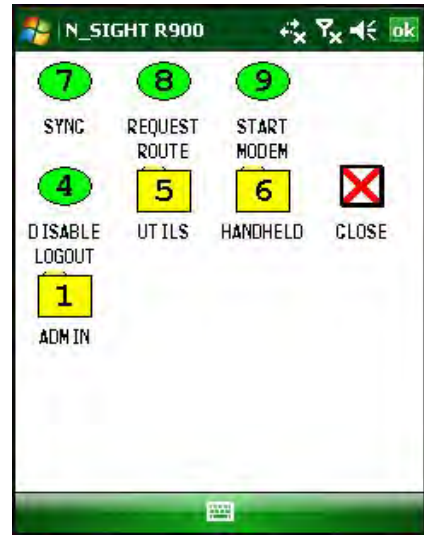

Figure 10.2 N_SIGHT R900 Main Menu
The N_SIGHT R900 Main Menu appears, as illustrated in Figure 10.2.
- 2 The N_SIGHT R900 Main Menu appears as illustrated in Figure 10.2 on Page 10-8.